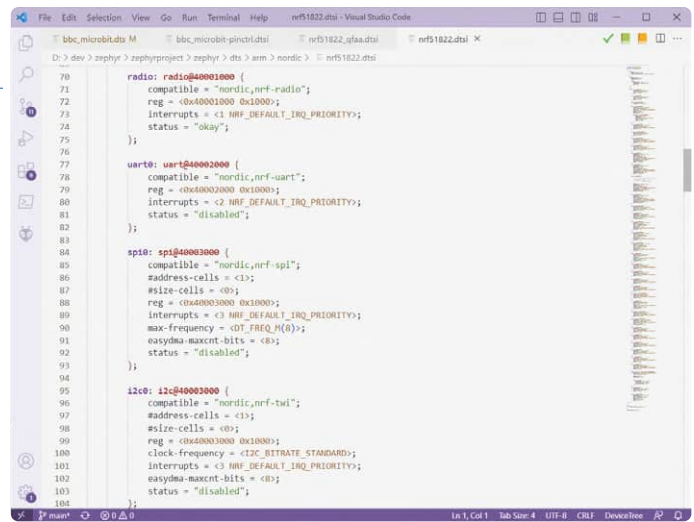

Figure 5: An extract from the *nrf51822.dtsi* file. The zoomed-out view on the right shows how long this file is.
To view DTS(I) files in a somewhat more comfortable way, you can use the DeviceTree plugin for Visual Studio Code [4]. This plugin provides syntax highlighting and code folding, making the files easier to read (DTS files use C language-style syntax). **Figure 5** shows an extract of the *.dtsi* file for the nRF51822 that is at the heart of the BBC micro:bit V1 board. This file is included by the board's DTS file. As an example, note how the status of `uart0` is